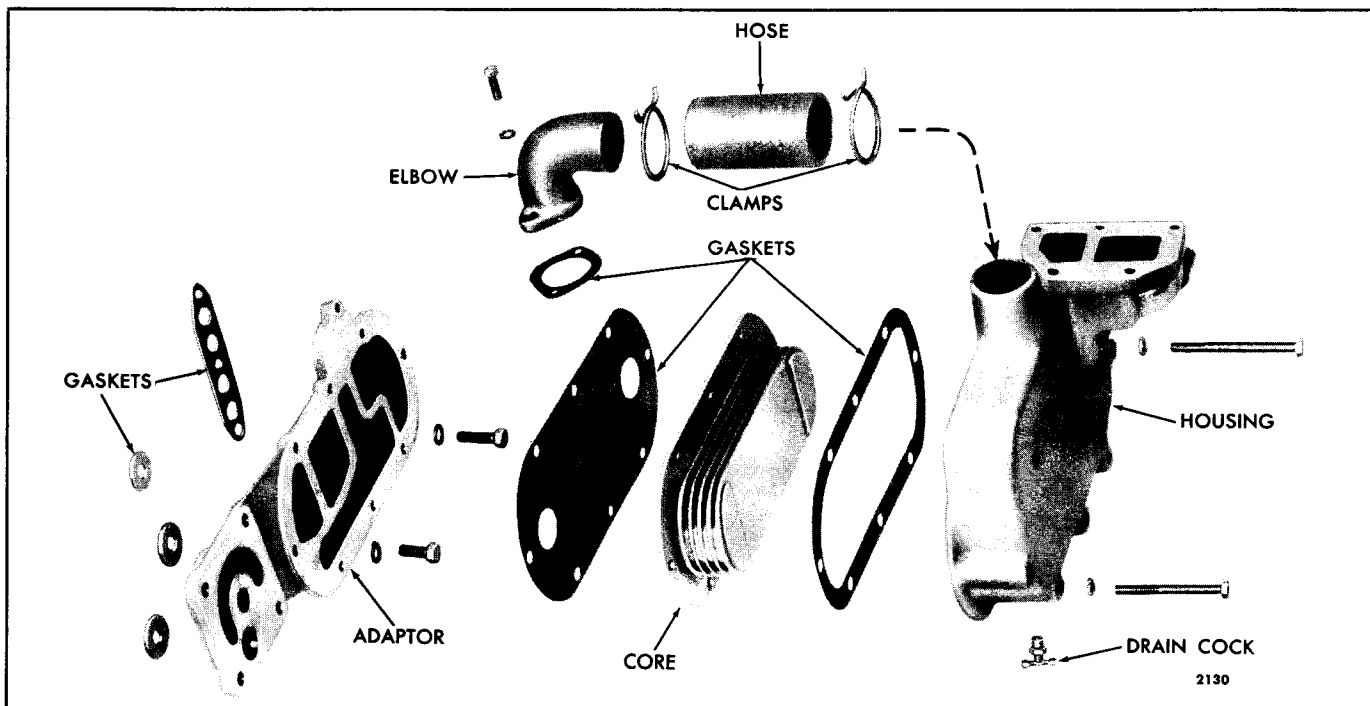

Fig. 4 - Oil Cooler Details and Relative Location of Parts (In-Line Engine)
1. If the oil cooler adaptor (In-line engines) was removed from the cylinder block, remove the old gasket material from the bosses where the adaptor sets against the block. Affix new adaptor gasket and shims (Fig. 4), then secure the adaptor to the cylinder block with five bolts and lock washers. A nitrile base oil cooler to adaptor gasket is currently used on vehicle engines equipped with the AT540 transmission. The new gasket (charcoal colored) is more compatible with transmission fluid than the former gasket (beige color).
2. Clean the old gasket material from both faces of the core flange and affix new gaskets to the inner and outer faces (Figs. 4 and 5). Insert the core into the cooler housing.